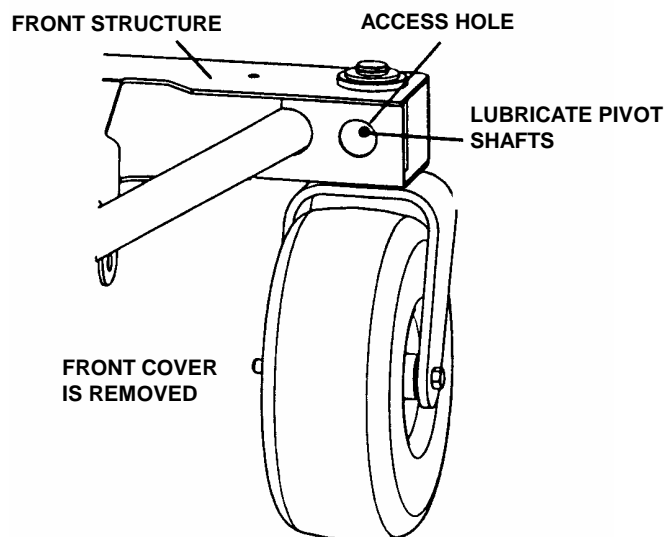

FIGURE 3.6
- The pivot shaft grease fitting can be accessed through a hole at the rear of the front structure. Lubricate pivot shaft with three shots of general purpose grease from grease gun. See Figure 3.6.